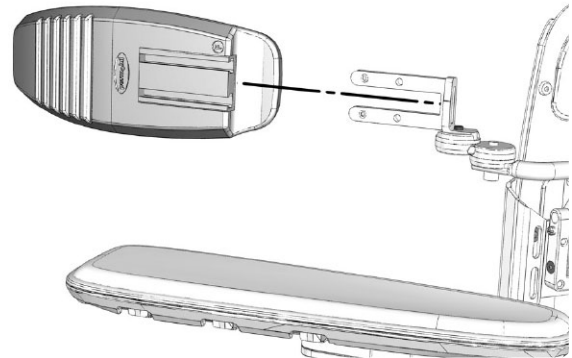

Fig.4. Mount a cushion by inserting the two tabs of the trunk support into the UniTrack rails on the cushion.
5. Mount a cushion (Separately ordered) by inserting the two tabs of the trunk support into the UniTrack rails on the cushion. Fix into position by tightening the screws on the tabs. Fig. 4.